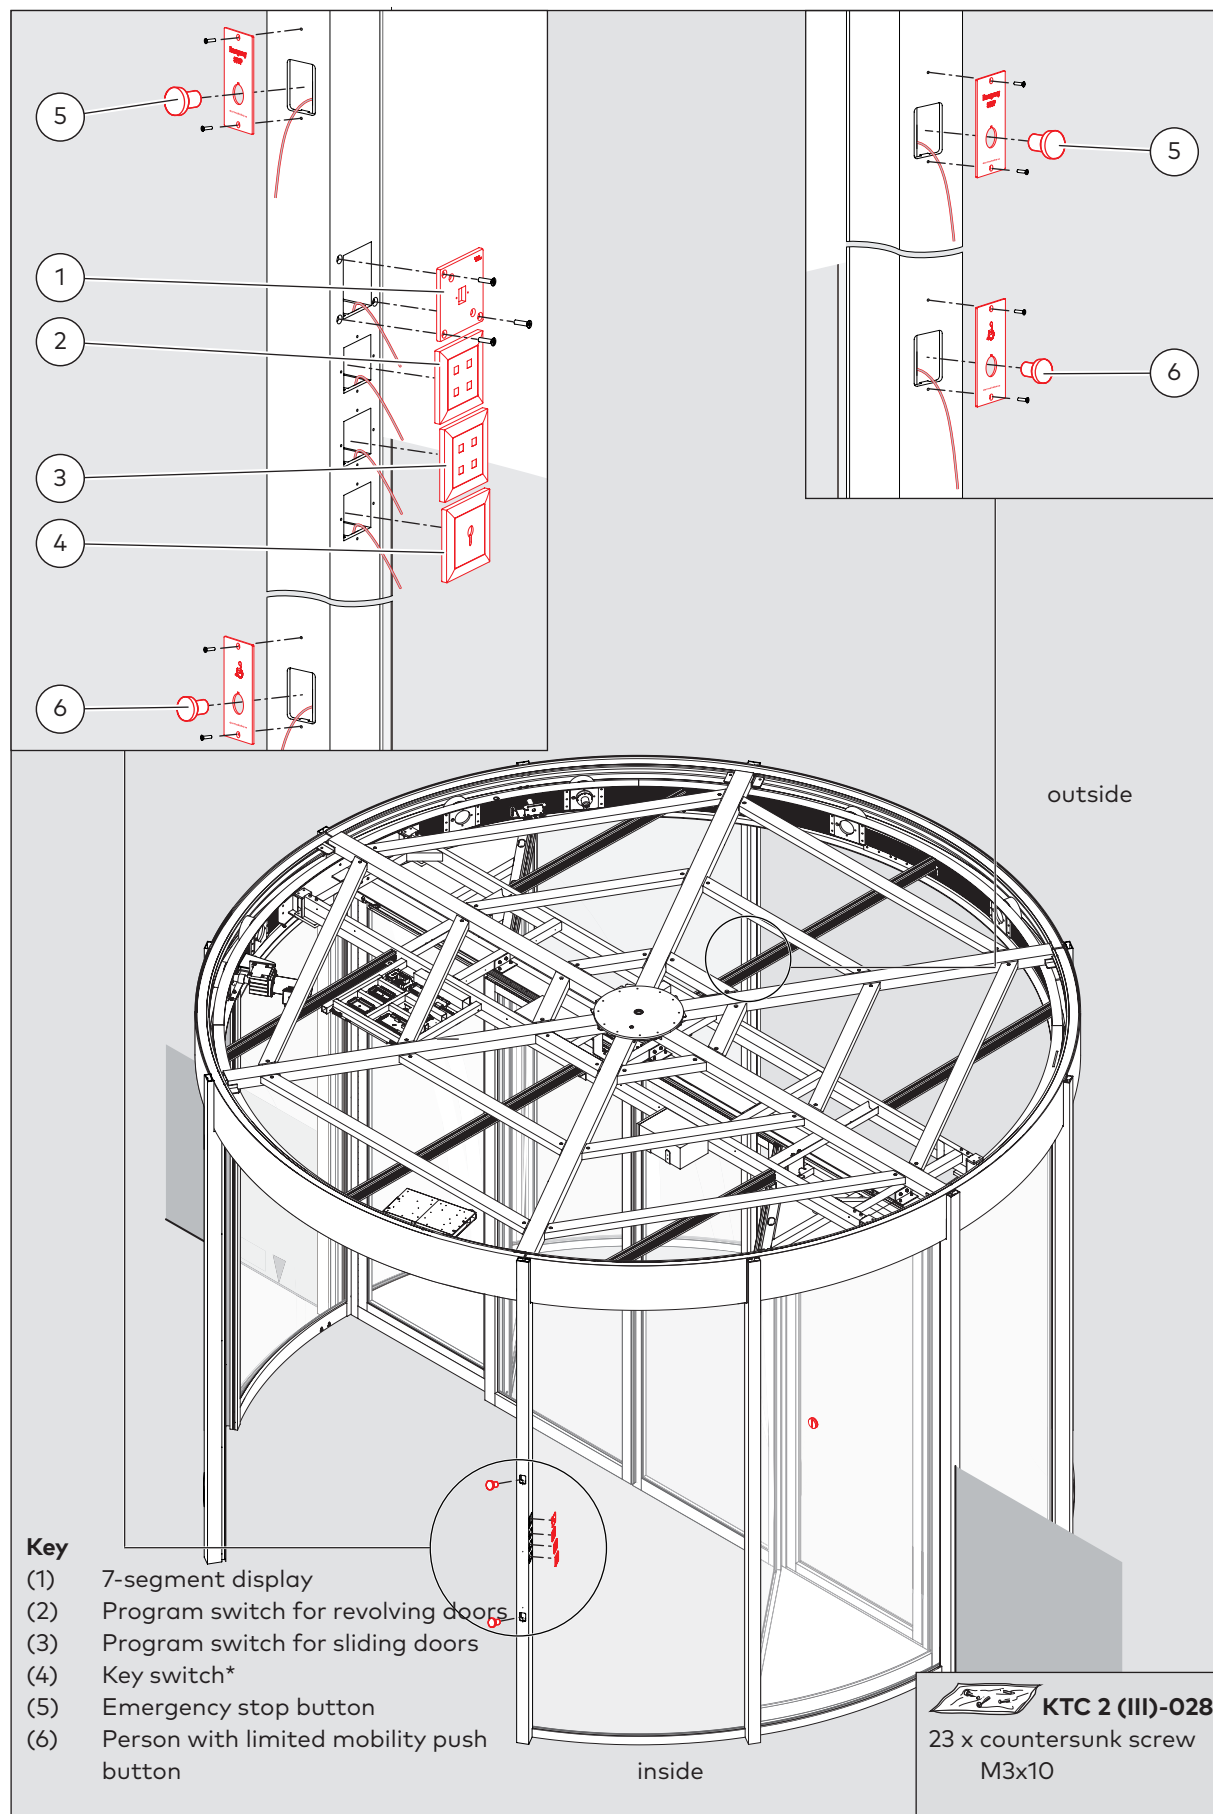

Fig. 93 Mounting the automatic sliding door
- Always insert the operating elements into the post in accordance with Fig. 93.